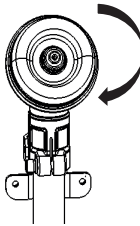

Fig. 7
1. Disassemble the nut (clockwise), spool retainer, and support plate from gear case (Fig. 7&8).